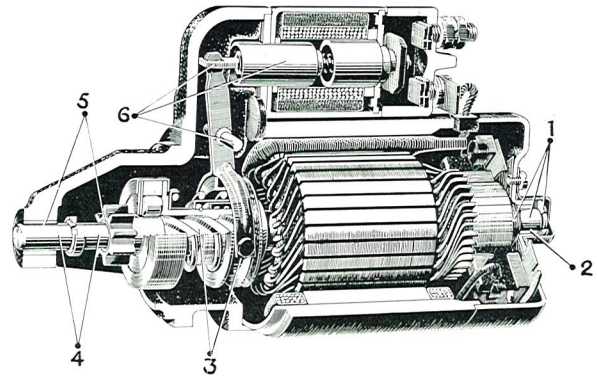

Fig. 3-46. Lubricating scheme for starter motor
1. Lubricate the parts of the starter motor according to Fig. 3-46.